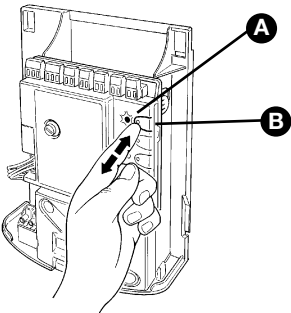

Figure 67
- 1 Press and hold down button P1 [B] (Figure 67) on the control unit.